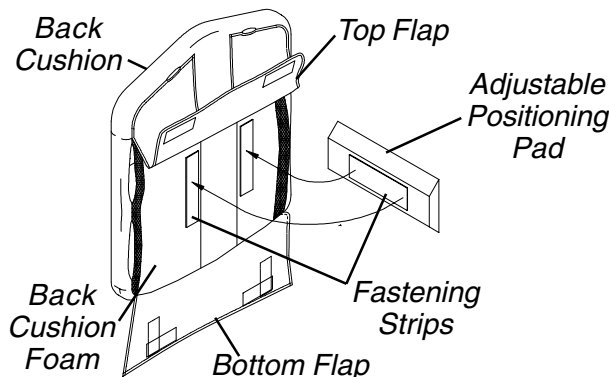

FIGURE 3 - INSTALLING/REMOVING ADJUSTABLE POSITIONING PAD (UNIBACK ONLY)
Installing/Removing Adjustable Positioning Pad (UNIBACK ONLY) (FIGURE 3)
3. Align the fastening strips on the adjustable positioning pad with the fastening strips on the back cushion foam as shown in **FIGURE 3**.